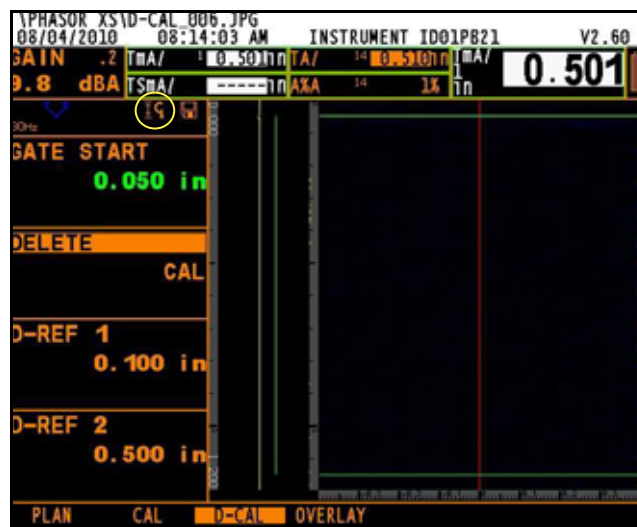

Figure 77: Selecting the D-CAL Icon
6. Press RECORD twice. The D-CAL icon (Figure 77 below) will appear when the procedure is successfully completed.